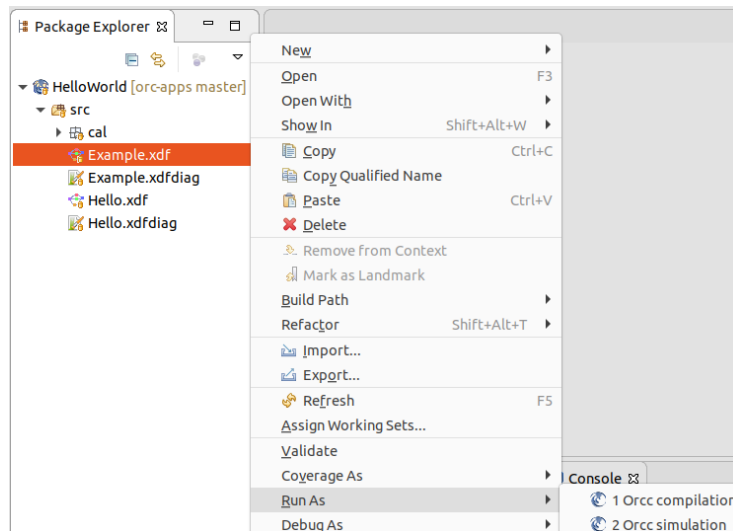

Figure 8.1: ORCC Run as Menu Snapshot.
- On the Package Explore click on Example.xdf -> Run As -> 1 Orcc Compilation . (see figure 8.1).